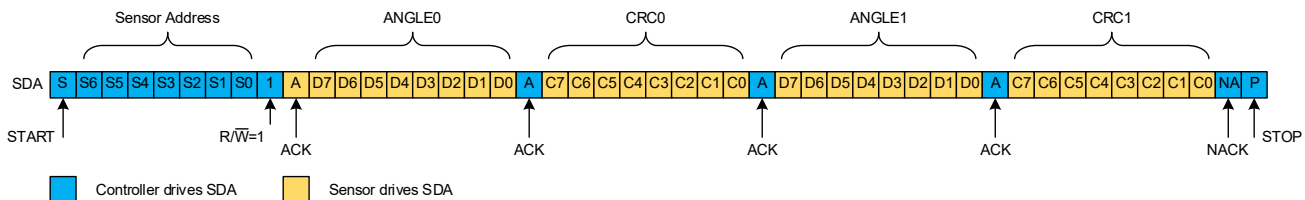

Figure 36: 16-bit angle I²C Quick Read with CRCEN = 1
- If CRC is enabled (CRCEN = 1), the sensor sends the CRC8 value after each register value (Figure 36).